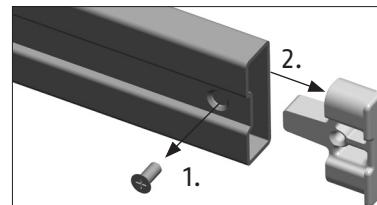
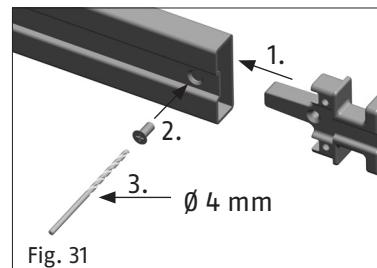

Fig. 30
Fig. 31
1. First, loosen the screws on the back of the bolt and remove the bolt end cap (fig. 30). Insert bolt end cap for door guard function and tighten all the way with self-tapping screw. Drill cross-head of screw with HSS drill Ø 4mm (fig. 31) and apply touch-up stick or lubricant or similar to the outline of the hole (to protect from corrosion).